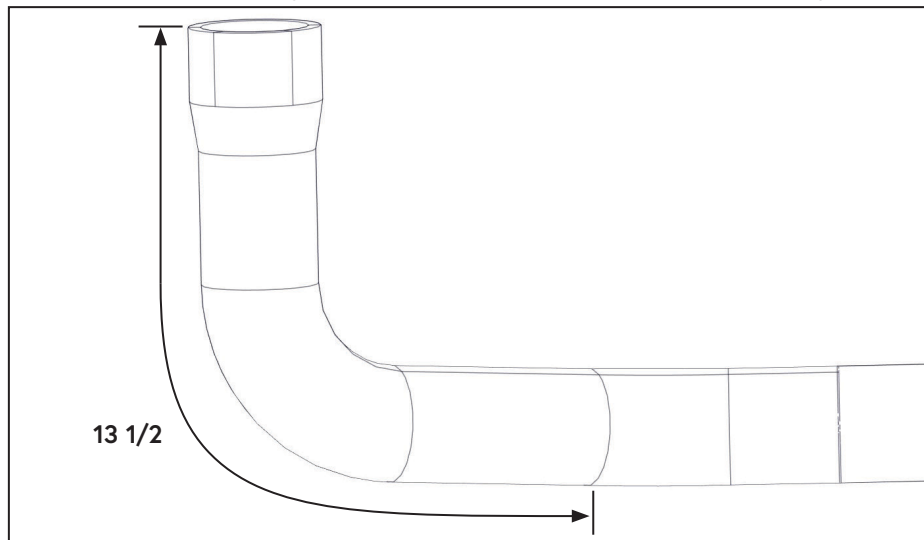

Figure 16 — Upper coolant hose modification
- ☐ Measure 13 1/2 in along the outside radius and cut the hose square (Figure 16).